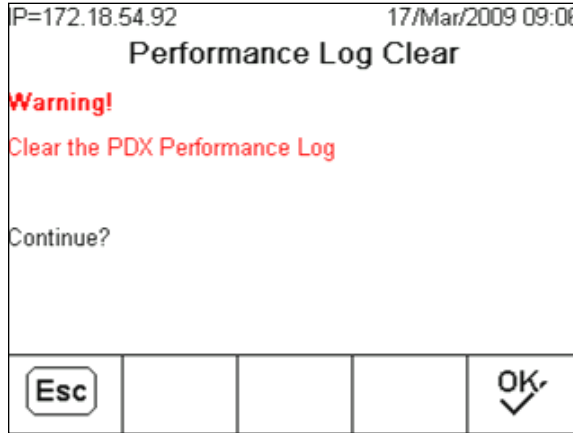

Figure C-46: PDX Performance Log Clear Screen
2. Press the CLEAR softkey **C** to clear the log records and reset the log file. A warning screen (Figure C-46) displays, requesting verification. Press the ESCAPE softkey **Esc** to cancel the operation or the OK softkey **OK** to confirm it.